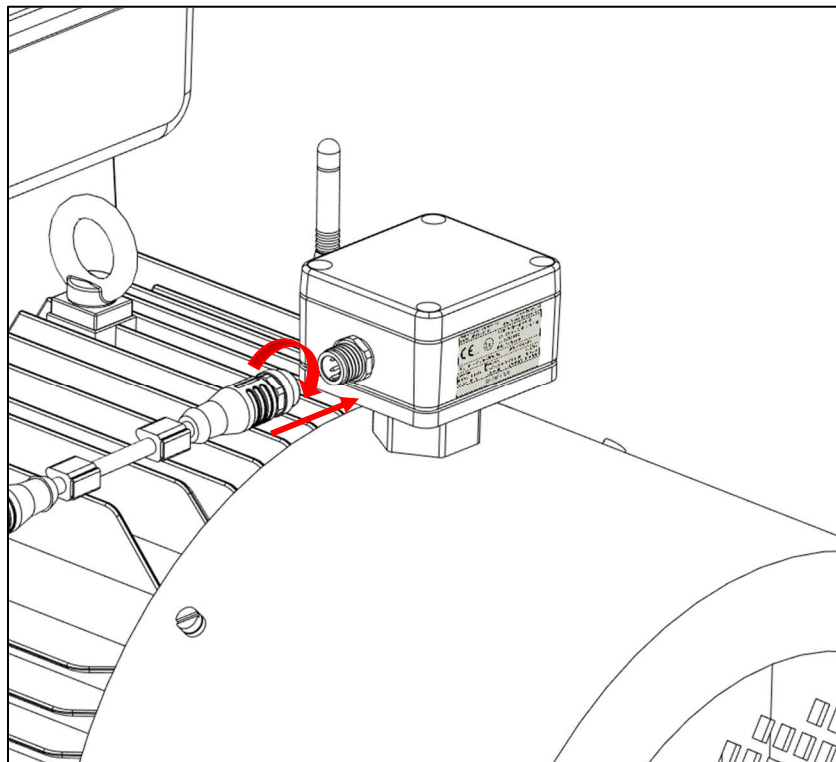

Figure 13.- Connecting the power supply to the InduEye®
2. Insert and screw the cable connection from the power generation module, in this case a Thermoelectric generator (male connector) to the InduEye® VibroSense 3.0 module power supply connector (female connector), as shown in Figure 13.